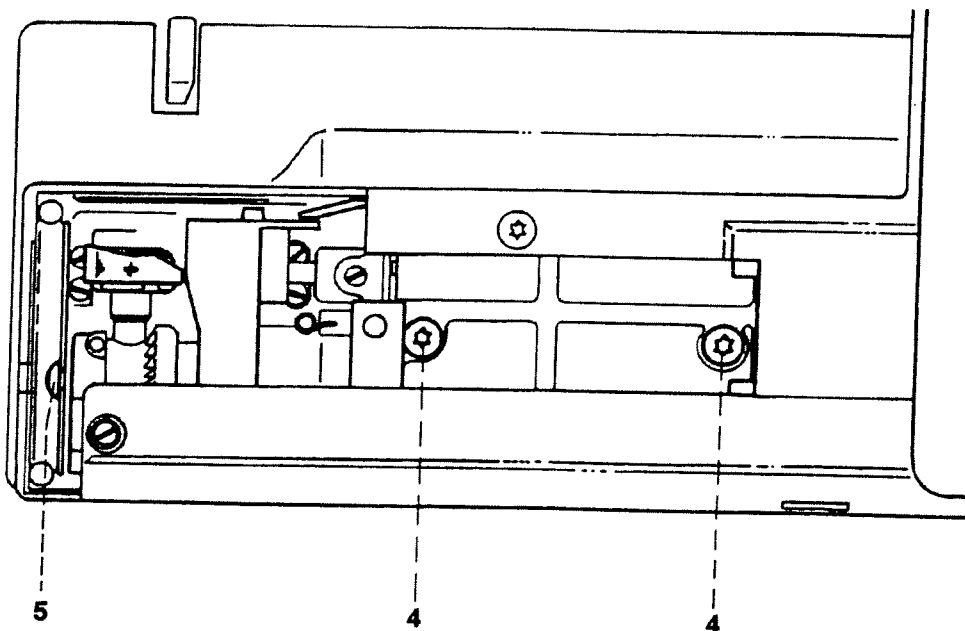

Fig. 4
- Turn out the two retaining screws 4 of the free-arm cover (fig. 4).